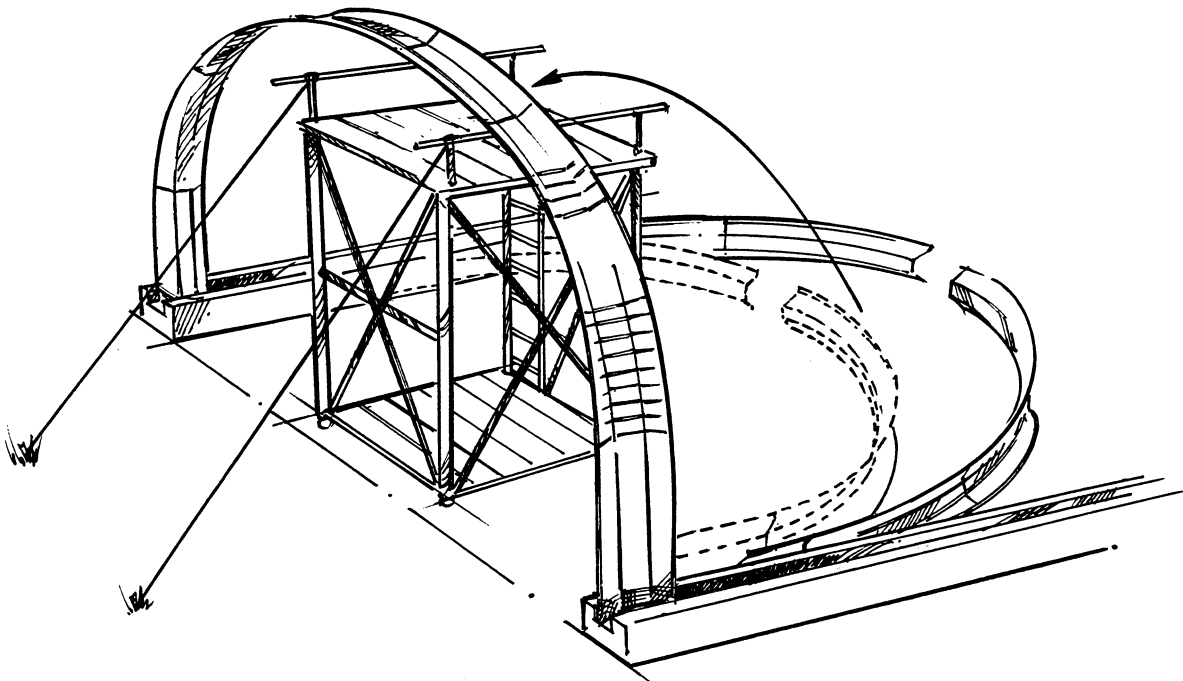

Fig.19B
6. Now raise the second half of the arch in the same fashion, guide it into position (see fig.19B) and bolt it to the first half.